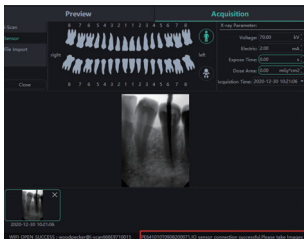
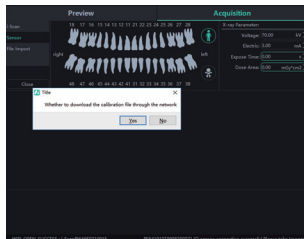

Figure 22
Figure 23
a) Connect the sensor device to the computer USB interface, and select the “Sensor” device type in area 1, as shown in Figure 22. Click “Open”, the device will enter the acquisition state, and start to acquire images. At this time, the sensor serial number is displayed in the software status bar of area 2, as shown in Figure 22. When the sensor is used for the first time, the user will be prompted “Whether to download the calibration file through the network”. Click “Yes” to start the download; click “No”, the user will be prompted “Whether to manually import the calibration file”. Click “Yes” to select the calibration file to import. Generally, the image acquired by the sensor will be better after the calibration file is selected, as shown in Figures 23, 24.